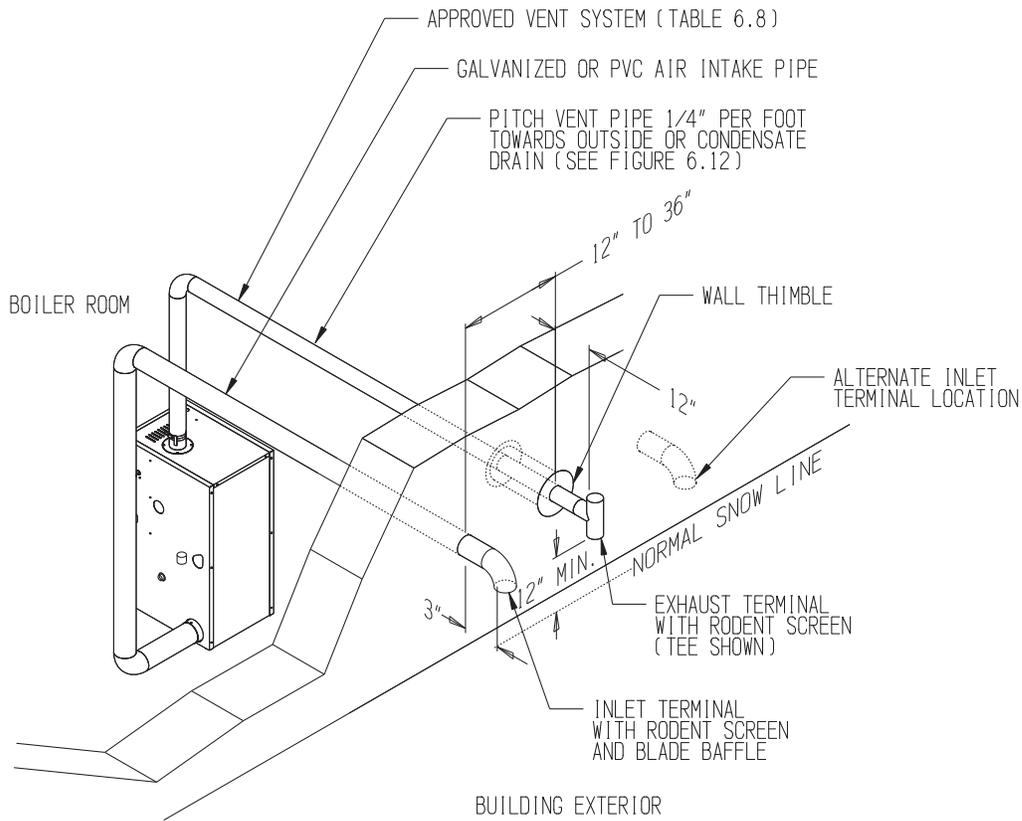

FIGURE 6.2a: HORIZONTAL DIRECT VENTING USING SEPARATE TERMINALS (VENT OPTIONS 1-2)
Except when the Crown 50-003 or 50-004 coaxial terminals are used, the air intake fitting on a horizontal direct vent system (Options 1 - 2) is always a 90 degree elbow with a rodent screen. This elbow is made out of the same material as the rest of the air inlet system (either galvanized or PVC) and is installed as shown in Figure 6.2a.
Vertical direct vent systems (Vent Options 6 - 8) can have combustion air obtained from either a vertical or horizontal air intake system. When combustion air is obtained from the roof, the air inlet terminal consists of a 180 degree elbow (or two 90 degree elbows) with a rodent screen as shown in Figure 6.4. When combustion air is obtained through a horizontal vent system, the air inlet termination is a 90 degree elbow with a rodent screen as shown in Figure 6.2a.
- 9) Terminal offsets - Horizontal elbow or tee terminals may be offset by as much as 5 ft as shown in Figure 6.10. This sometimes helps maintain the 12" minimum clearance required above the snow line. The extra two elbows and the section of vertical pipe on the outside of the building must be counted when checking that the maximum vent / intake pipe length is not exceeded. On horizontal direct vent systems, both terminals must be offset by the same amount so that their relationship to one another is the same as shown in Figure 6.2a. When this offset is used, the horizontal section of vent pipe must be pitched away from the outside so that condensate cannot collect in the lower offset elbow.